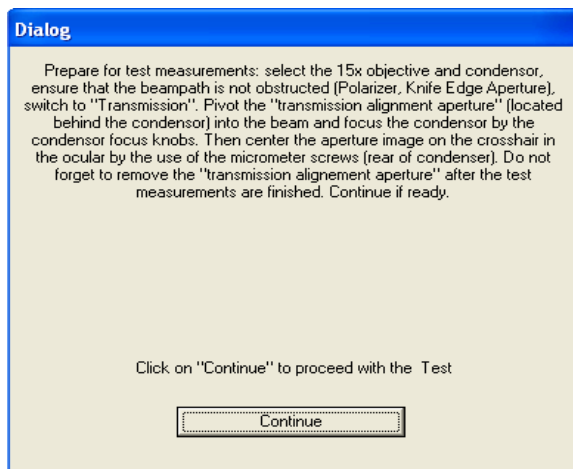

Figure 13: OPUS Reminder Message
- Thereupon, the message window shown in figure 13 appears reminding you to check whether the microscope is prepared as described in the above section *Preparing the Microscope in Transmittance for the PQ Test*.